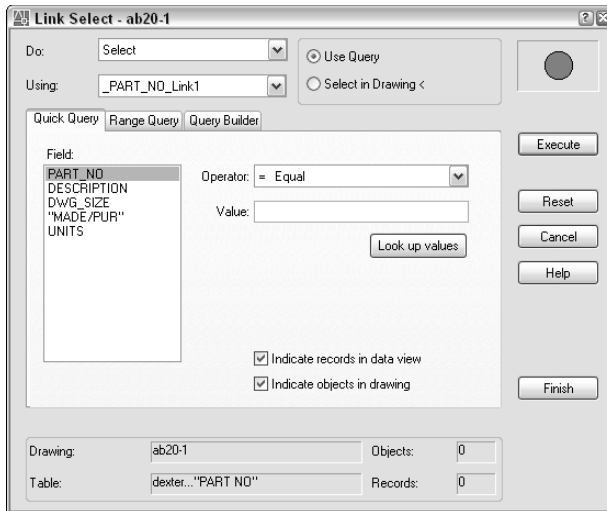

Figure 20-23: Use the Link Select dialog box to create combined selection sets of objects from queries and/or direct selection in your drawing.
1. Choose `dbConnect` ⇨ `Links` ⇨ `Link Select`, to open the Link Select dialog box, shown in Figure 20-23.